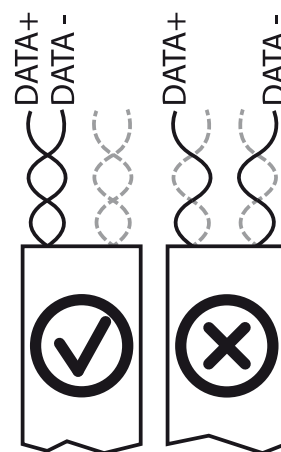

Figure 27: RS485 bus: Assignment of twisted-pair wires
- Observe the wire pairing when connecting DATA+ and DATA- (see Figure 27)